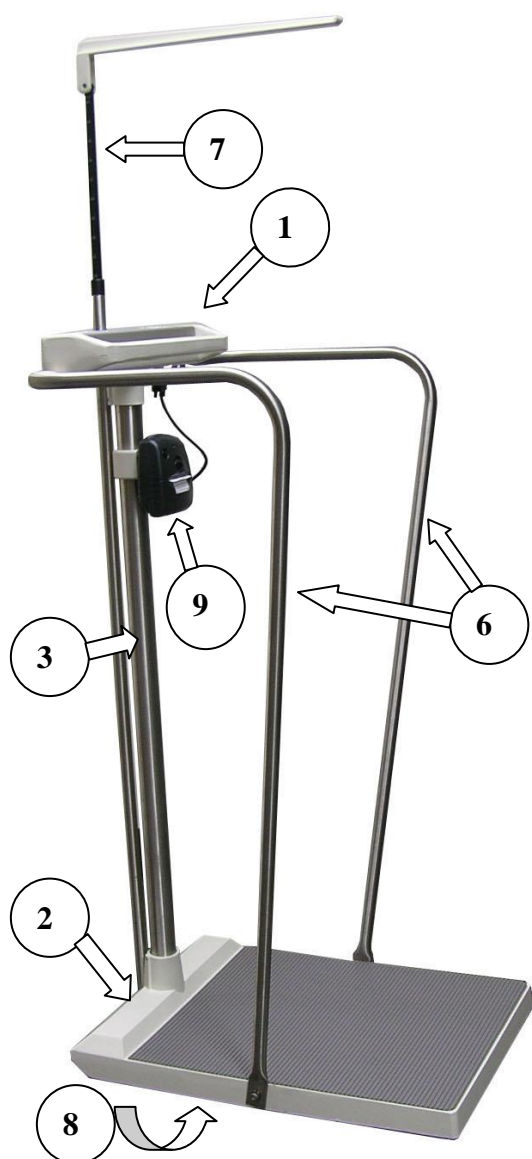

Figure 1: Assembly Diagram
STEP 2: (Figure 1) Verify that the serial number on the Display Unit (1) matches that on the Base Assembly (2).
STEP 3: Remove the four (4) set screws from Base Assembly collar and apply a small amount of Loctite® to each. Insert Mast (3) into Base Assembly collar and seat firmly. Re-install set screws in Base Assembly collar and tighten securely.